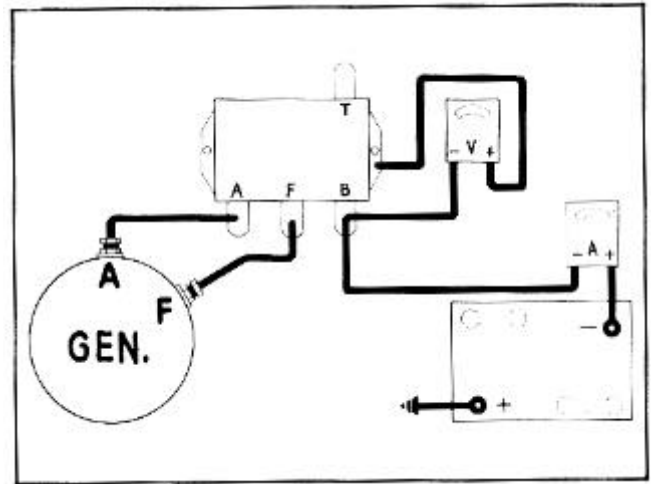

FIGURE 23
1. Remove wires from regulator "B" terminal and connect ammeter between this terminal and the battery lead, Figure 23.
1. Connect ammeter and voltmeter as for voltage regulator check, Figure 23.